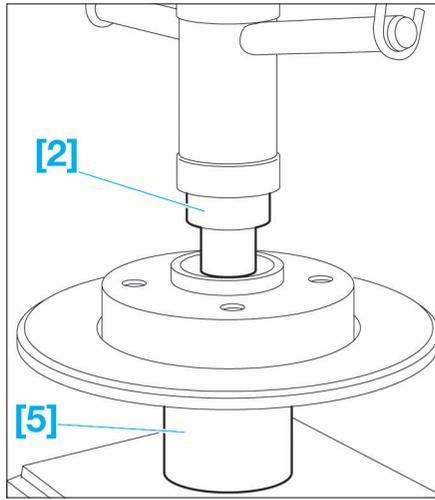

FIG. 31
- Poser les outils [2] (mandrin ref. 9501-T.E4) et [5] (mandrin ref. 5709-T.F2) (Fig.31).